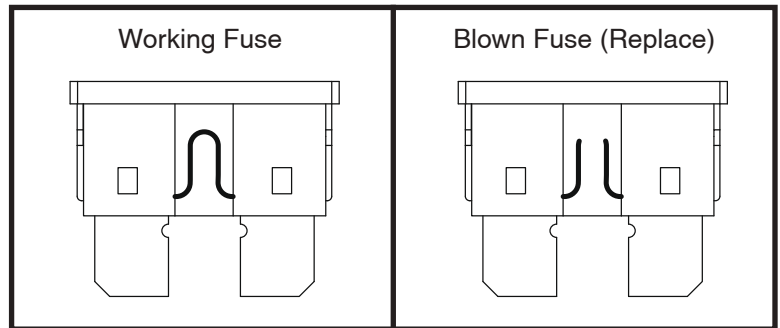

Figure 38. Fuse Replacement
2. Examine the fuse to be sure it is blown. See figure 38.